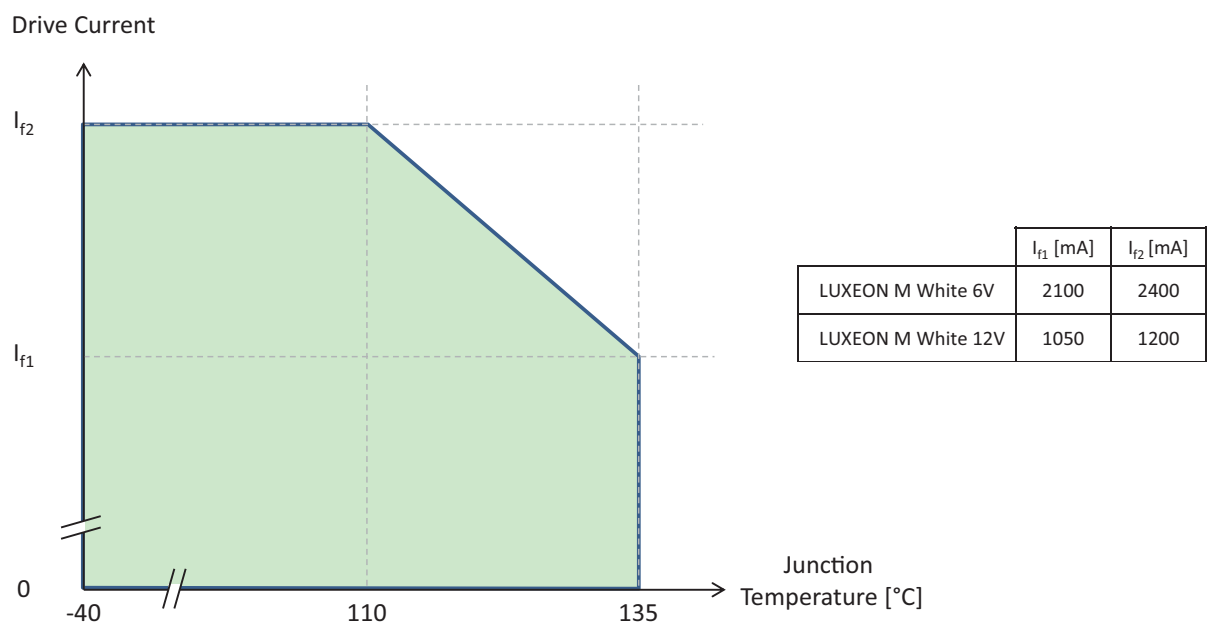

Figure 1. Maximum permissible operating conditions for LUXEON M White.
1. See Figure 1 for more details on the maximum permissible operating conditions for LUXEON M White.
2. Residual periodic variations due to power conversion from alternating current (AC) to direct current (DC), also called "ripple", are acceptable if the following conditions are met:
Notes for Figure 1: